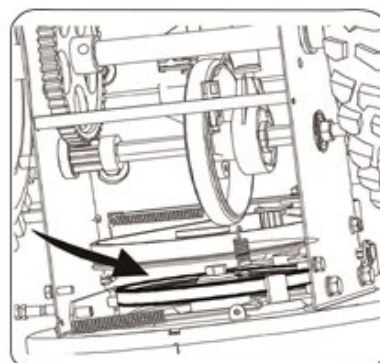

Fig.25
5. Remove the belt from around the auger pulley and slide the belt between the support bracket and the auger pulley. Reinstall the V-belt by following the instructions in reverse order. See figure 25.